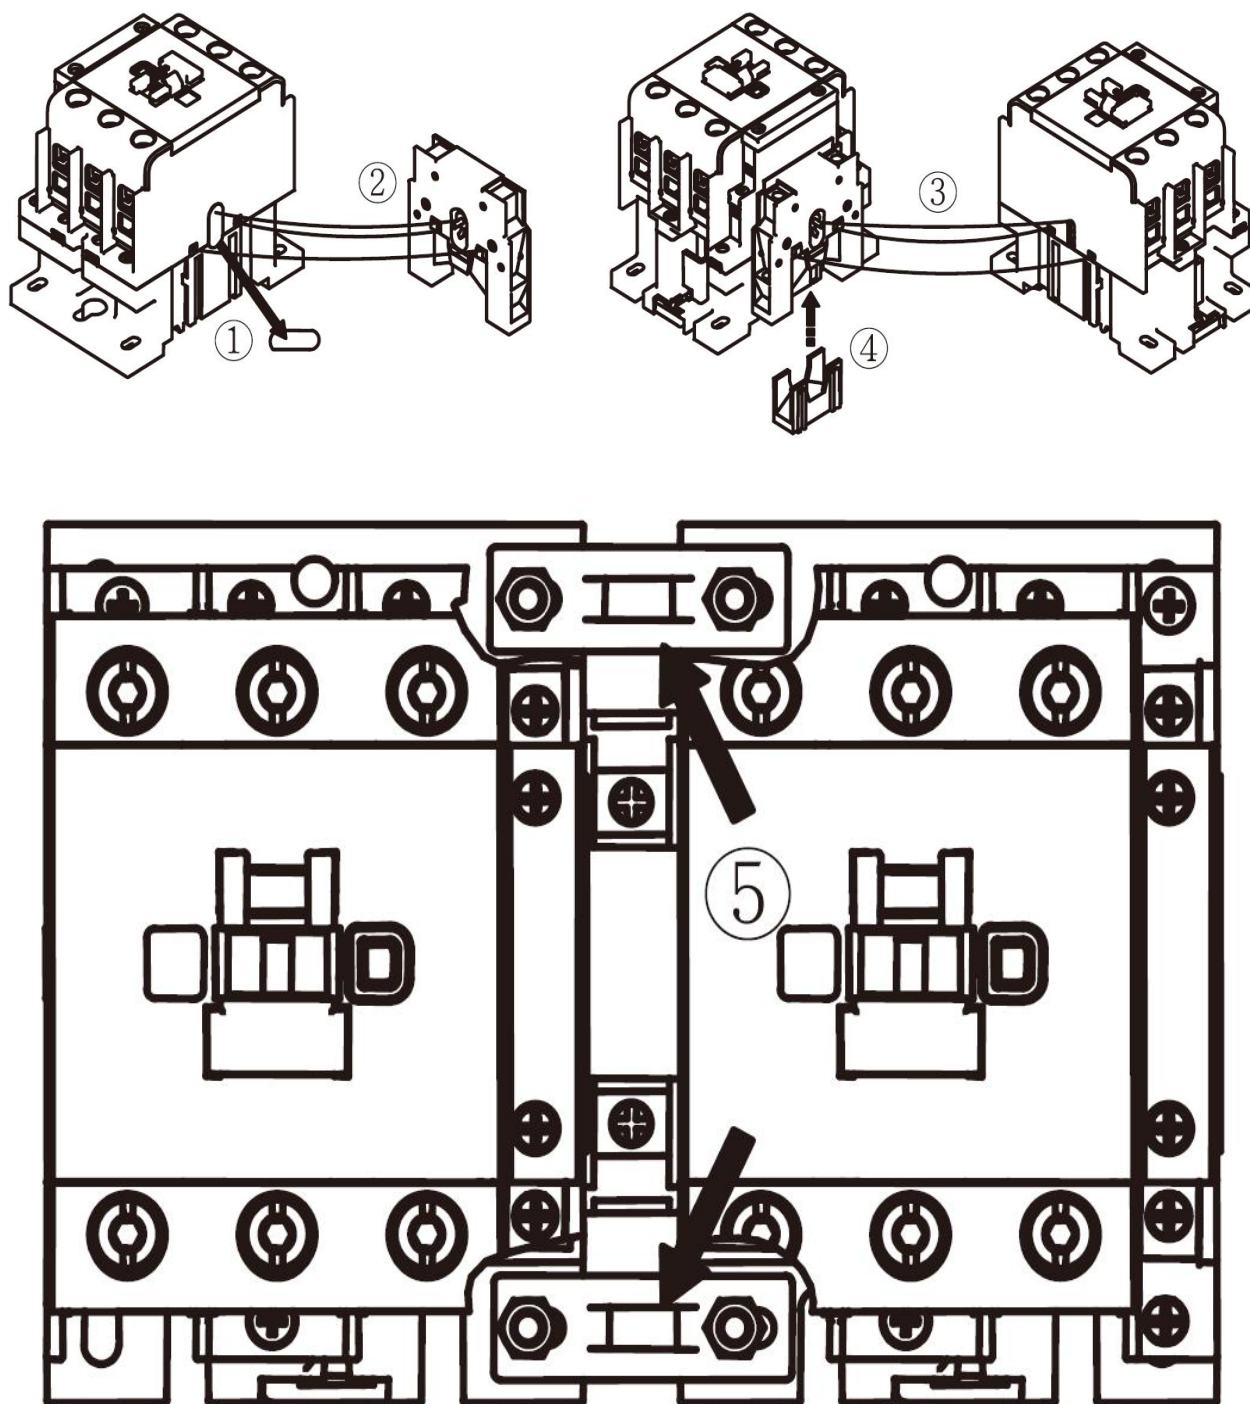

Figure 14 The installation method of FR6 mechanical interlocking
(3) The installation method of FR6 mechanical interlocking is shown in Figure 14, where CJX2s(K)-09~38A only needs to complete steps ① to ④, and CJX2s(K)-40~95A also needs to install a fixed connection plate:
- ① Tear off the dust-proof sticker
- ② Install FR6
- ③ Install another contactor as shown in the picture
- ④ Install the fixed module as shown in the picture
- ⑤ Fix the two contactors with fastening screws, nuts and connecting plates as shown in the picture